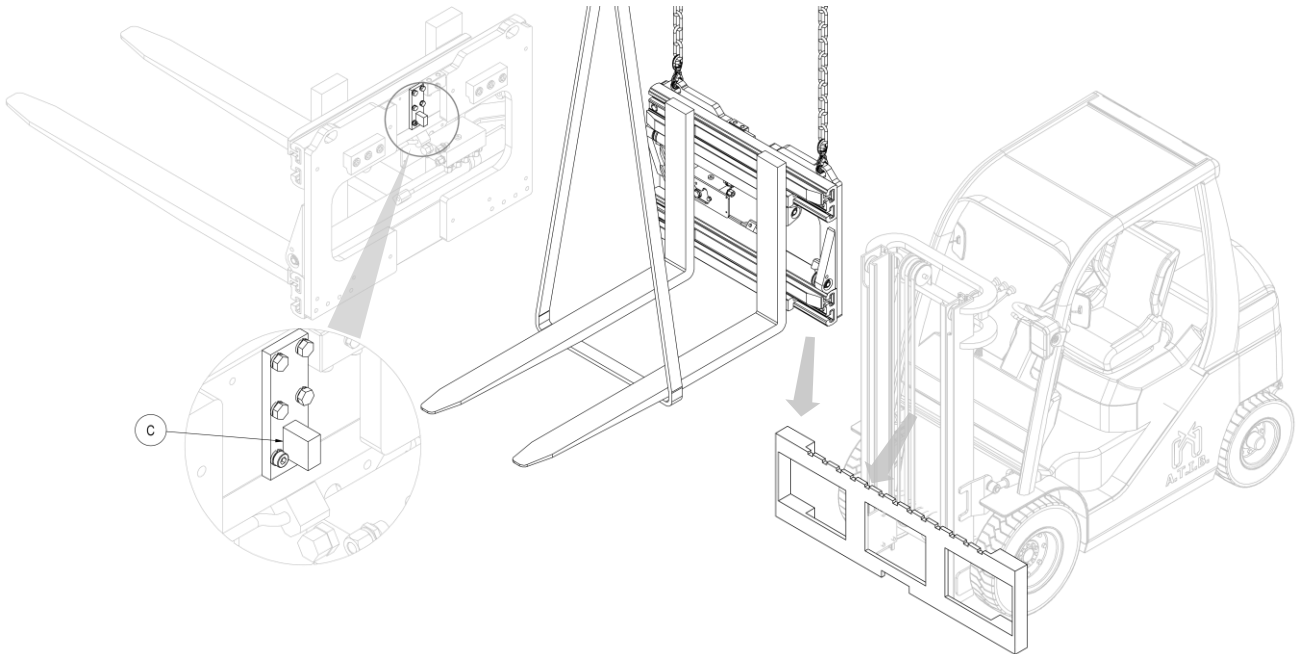

Figure 3
6. Then hook on the equipment using an overhead crane or hoist of sufficient capacity and position it on the fork carriage, taking care to fit centring pin **C** into the central notch on the fork carriage (see *Figure 3*).